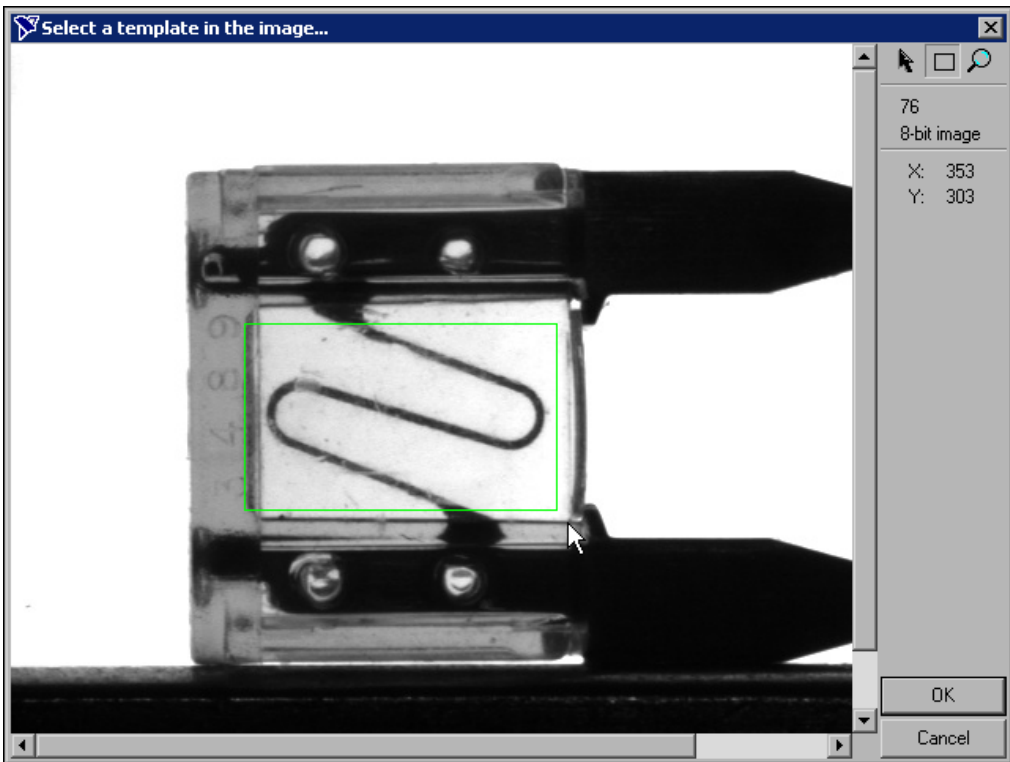

Figure 4-3. Creating a Template Pattern
3. Draw a region of interest around the conductor, as shown in Figure 4-3. This region becomes the pattern matching template.